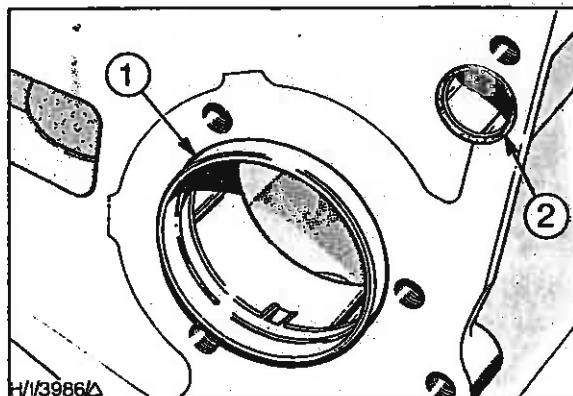

Fig. 45 - Cylinder Block Front Face
7. Place the timing gear housing locating ring into the counterbore in the camshaft front bearing housing, and tap it firmly against the stop using a soft faced mallet (Fig. 45.).